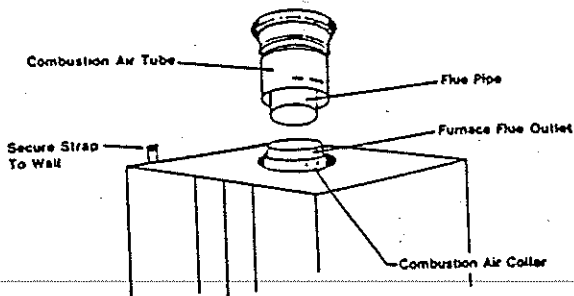

Figure 8
- b. Pull the telescoping flue tube and combustion air tube assembly down from the roof jack. Slide the flue tube/combustion air tube assembly down firmly over the furnace flue outlet and combustion air collar. Fasten the combustion air tube to the furnace combustion air collar using two (2) 1/2 inch sheet metal screws. (Screw holes are provided in combustion air tube and furnace combustion air collar.) See Fig. 8 and 9.